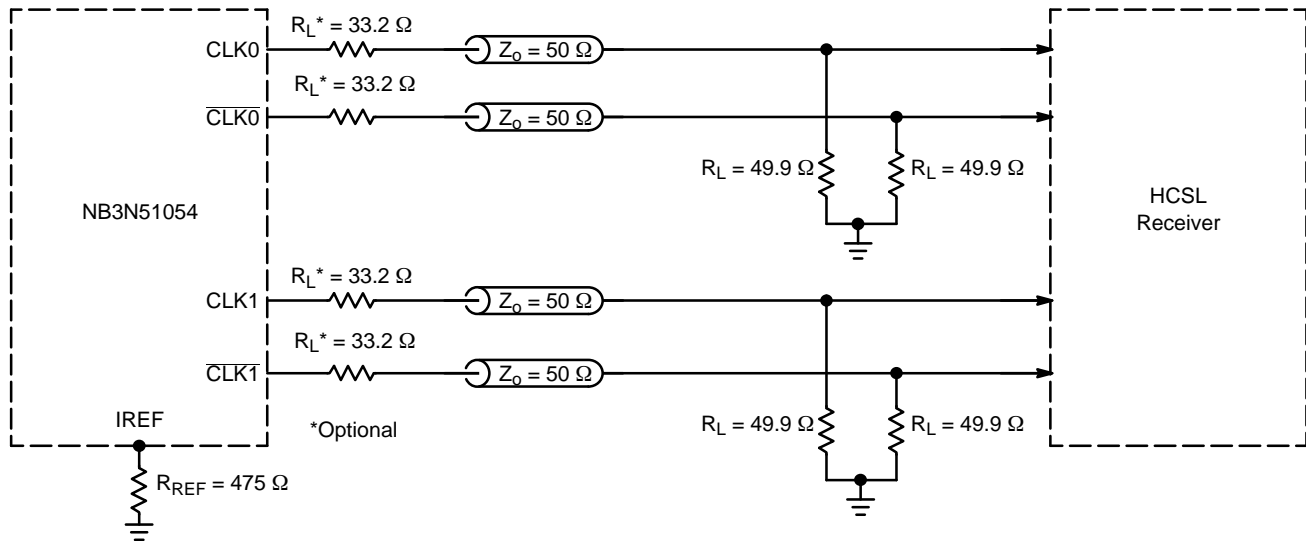
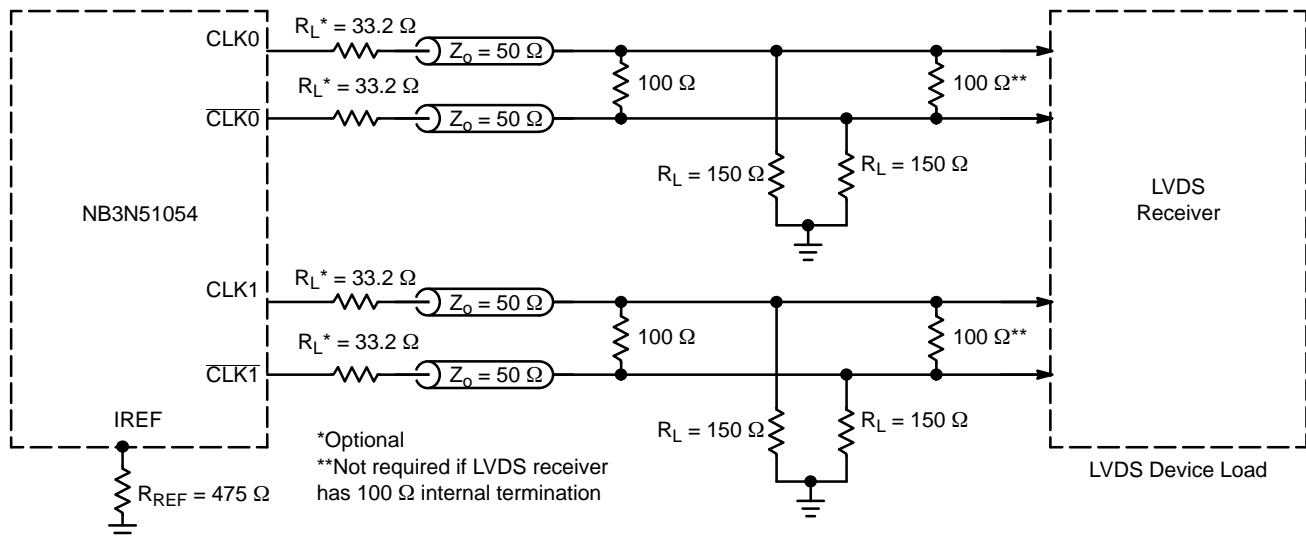

Figure 6. Typical Termination for HCSL Output Driver and Device Evaluation
Figure 7. Typical Termination for LVDS Device Load
4. Measurement taken with outputs terminated with $R_S = 33.2$ Ω , $R_L = 49.9$ Ω , with test load capacitance of 2 pF and current biasing resistor set at $R_{REF} = 475$ Ω . See Figure 6. Guaranteed by characterization.
9. Measurement taken from differential output on single-ended channel terminated with $R_S = 33.2 \Omega$, $R_L = 49.9 \Omega$, with test load capacitance of 2 pF and current biasing resistor set at $R_{REF} = 475 \Omega$. See Figure 6. Guaranteed by characterization.
14. Measurement taken from differential output on single-ended channel terminated with $R_S = 33.2 \Omega$, $R_L = 49.9 \Omega$, with test load capacitance of 2 pF and current biasing resistor set at $R_{REF} = 475 \Omega$. See Figure 6. This parameter is guaranteed by characterization. Not tested in production
The outputs can be terminated to drive HCSL receiver (see Figure 6) or LVDS receiver (see Figure 7). HCSL output interface requires $49.9\ \Omega$ termination resistors to GND for generating the output levels. LVDS output interface may not